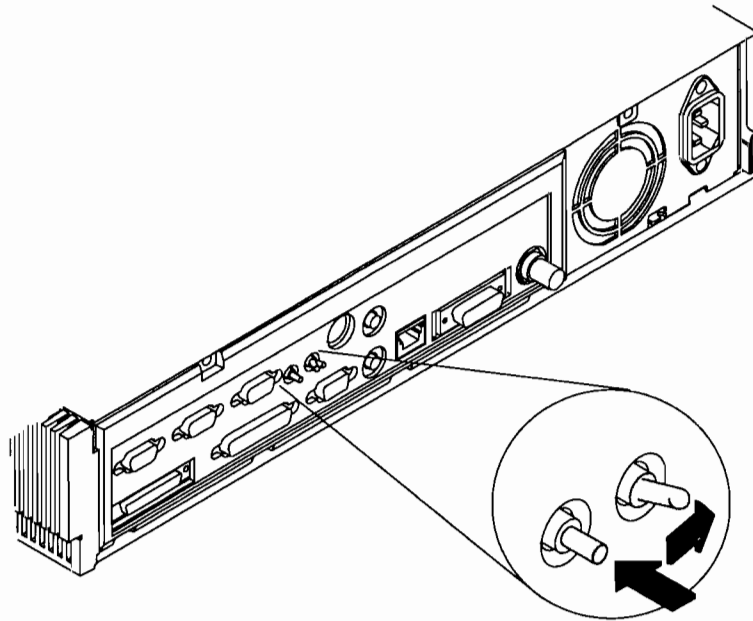

Figure 8–8. Resetting the Operating System
11. To restart the operating system, first set the Service/Normal mode switch to Normal mode and then press the Reset switch as shown in Figure 8–8.